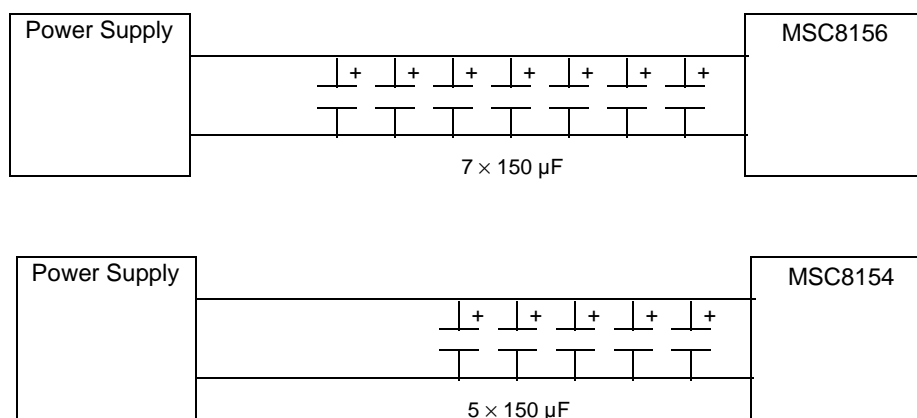

Figure 1. Bulk Capacitors Placement for MSC815x/MSC825x
- Bulk capacitors for V_{DD} . The bulk capacitors decrease low frequency noise. Bulk capacitors should be placed as close as possible to the MSC815x/MSC825x power balls to minimize voltage spikes on the V_{DD} . In the case of the MSC8156/MSC8156E/MSC8256, a total of seven 150 μF capacitors are required. Five of 150 μF need to be placed close to the DSP device as shown in **Figure 1**. For the MSC8151/MSC8152/MSC8154/MSC8154E/MSC8251/MSC8252/MSC8254, a total of five 150 μF capacitors are required. Three of the 150 μF need to be placed close to the DSP device.